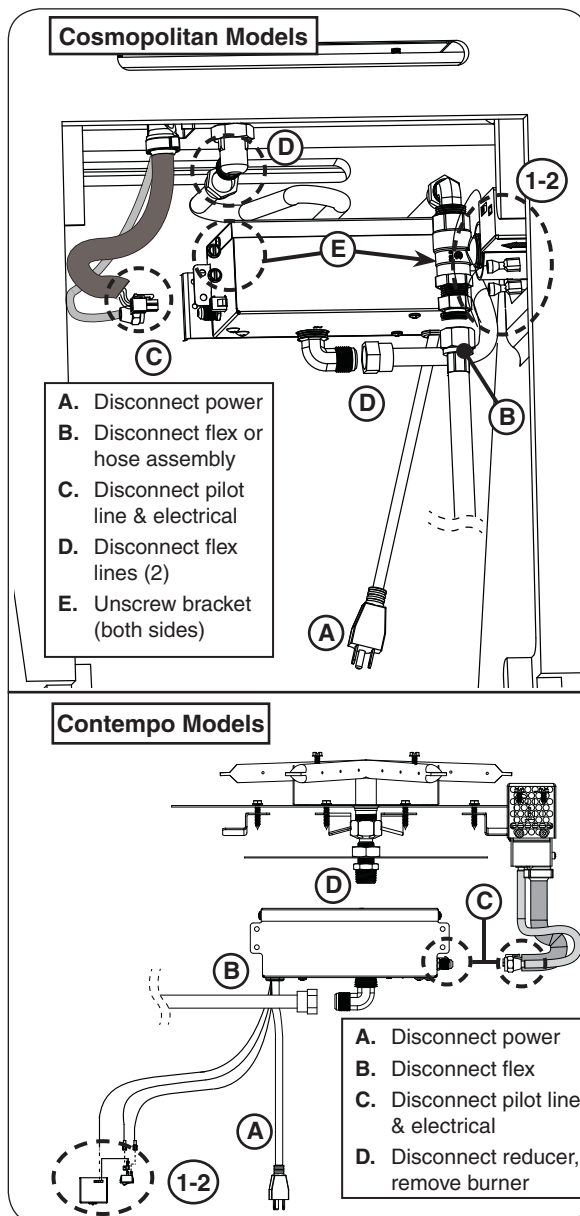

Fig. 46-2 Gain access to valve box
2. Gain access to the valve box from the unit as shown in Fig. 46-2, A-E.
2. Remove the burner and gain access to the valve box as shown in Fig. 46-2, A-D.